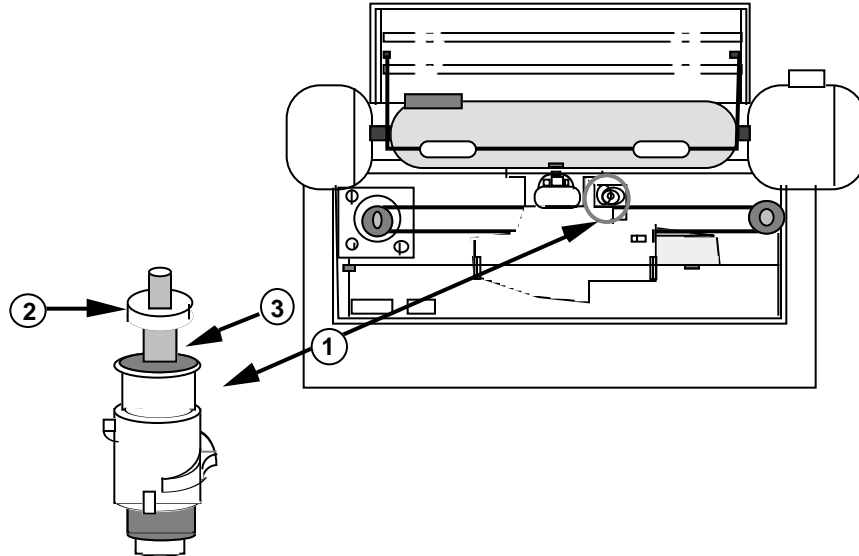

FIGURE 2
3. In this step you are going to push and turn the red spring-loaded assembly (Figure 2, #1) to make the adjustment.
1. Locate the color ribbon assembly (Figure 2, #1).
2. Loosen the lock nut (Figure 2, #2), and turn the adjustment nut (Figure 2, #3) one-half turn. To determine which way to turn the adjustment nut, examine the self-test printout. The first line should be black.